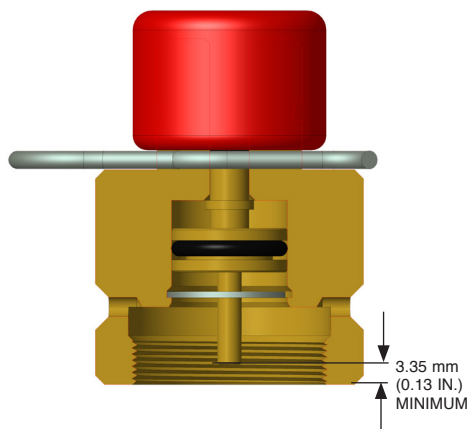

FIGURE 6-20
1. Check that the actuation pin is in the non-fired position. See Figure 6-20.